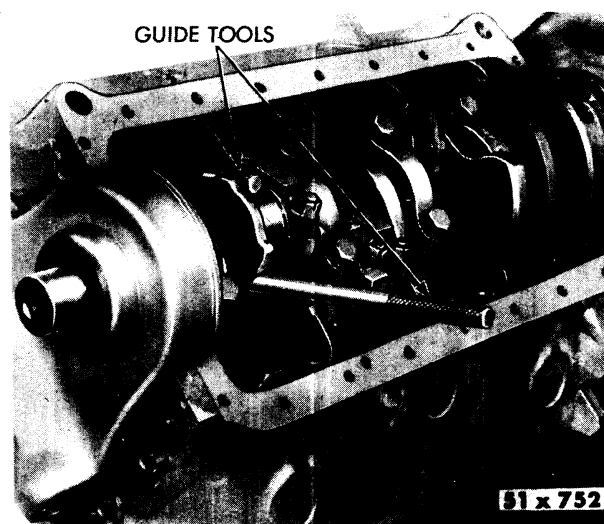

Fig. 44—Guiding Connecting Rod Over Crankshaft (Typical)
- (1) Immerse the piston head and rings in clean engine oil, then slide ring compressor, Tool C-385, over piston and tighten with the special wrench (part of Tool C-385). Be sure the position of the rings does not change during this operation.
- (2) Screw the connecting rod bolt protector (part of Tool C-3221) on one rod bolt, then insert rod and piston into cylinder bore. Attach the puller part of Tool C-3221 on the other bolt, then guide the rod over the crankshaft journal, as shown in Figure 44.